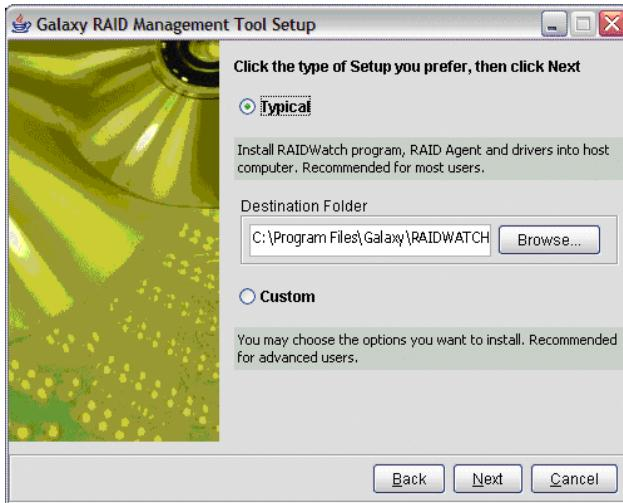

Figure 3-7: Choose an Installation Mode
Step 3. If you accepted the License Agreement in *Figure 3-6*, a new window with two installation options will appear. These options, shown in *Figure 3-7*, are **Typical Install** and **Custom Install**. The default is set to **Basic Install**. All users are recommended to install RAIDWatch program using the default settings. This will create a new "Galaxy" folder on the computer chosen as a management center. If you want to install RAIDWatch in a different folder, type in a new location or click the **Browse** button to select a destination folder. If you follow the default selection and click the **Next** button, the install shield will start install the RAIDWatch software, RAID Agents, and necessary drivers on the computer.